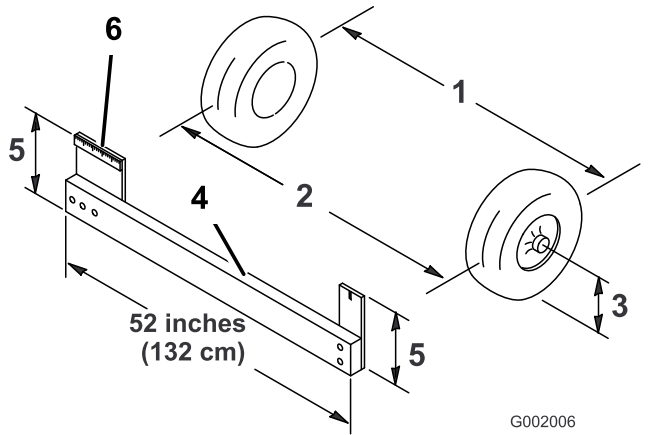

Figure 45
4. Measure the distance between both of the front tires at the axle height at both the front and rear of the front tires (Figure 45).
**Note:** You will need a fixture or alignment gauge for measuring the rear of the front tires at axle height. Use the same fixture or alignment gauge to accurately measure the front of the front tires at axle height (Figure 45).